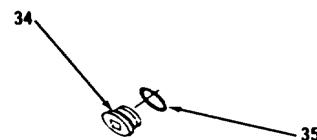

Figure 10-92.
13. Install new preformed packing (35) on plug (34, Figure 10-92).